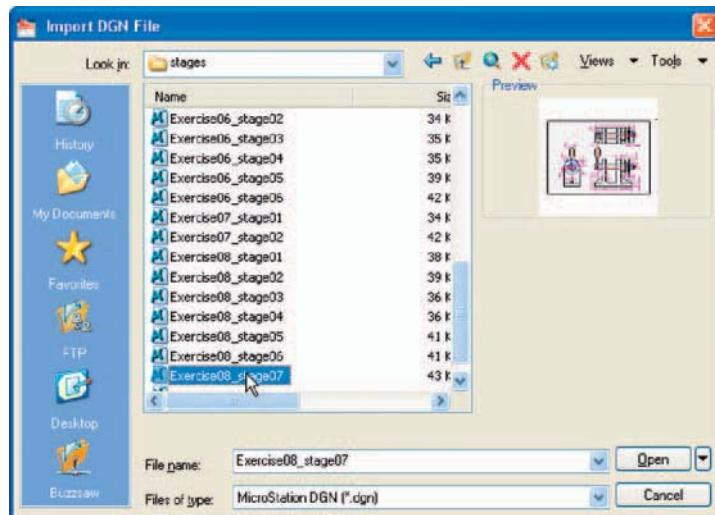

Fig. 10.21 The Import DGN File dialog
2. In AutoCAD 2010 at the command line *enter dgnimport*. The dialog **Fig. 10.21** appears on screen from which the required drawing file name can be selected. When the **Open** button of the dialog is *clicked* a warning window appears informing the operator of steps to take in order to load the drawing. When completed the drawing loads (**Fig. 10.22**).